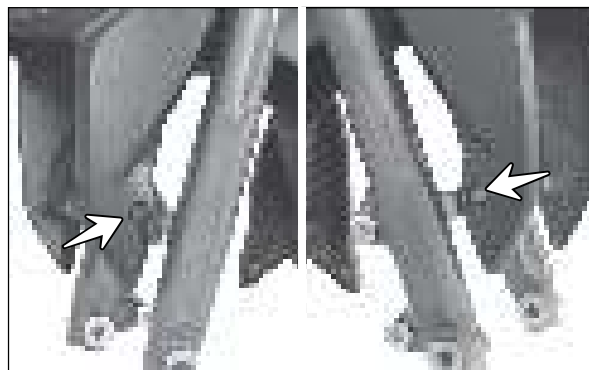

Fig. 6.46
- Remove the CRR pan head screws (M6x16 - 2 Nos.) from the fender front L & R. (Fig. 6.46)